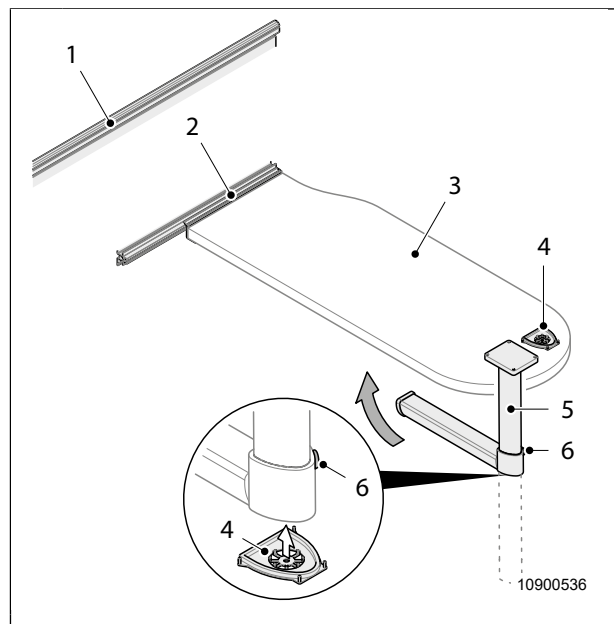

Fig. 32 Converting the hook-in table into a bed
3. Lift the table top (Fig. 32, item 3) on the right-hand side and unhook it from the upper guide rail (Fig. 32, item 1).
4. Press the button on the joint of the table leg (Fig. 32, item 6) and fold the table leg.
5. Remove the floor plate (Fig. 32, item 4) from the holder under the table.
6. Attach the floor plate (Fig. 32, item 4) to the bottom of the joint.
7. With the right-hand side of the table top lifted, hook the table top into the lower guide rail (Fig. 32, item 2).